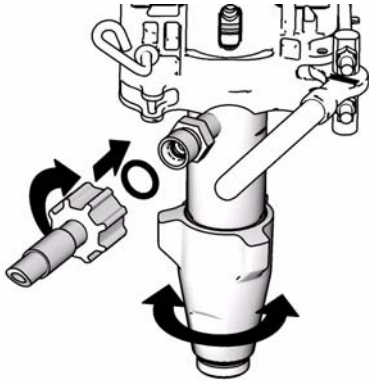

FIG. 22
4. FIG. 22. Close pump door and rotate latch into position. Do not tighten latch.
5. FIG. 22. Rotate pump to align with material hose. Connect material hose and hand tighten to 70 in-lb